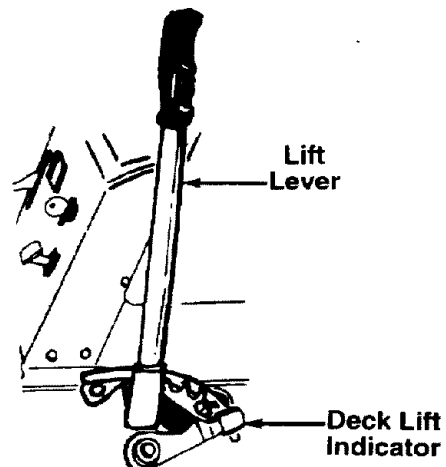

FIGURE 11.
**NOTE:** The lift lever **must** be in the disengaged position when starting the engine, when shifting into reverse and if the operator leaves the seat. See figure 11.
The deck lift indicator marks the position being used for the lift lever. Select the lift lever position desired, press the indicator lever outward, move it to the position immediately below the lift lever and release the indicator lever. See figure 11.
2. Place the lift lever in the DISENGAGED position. See figure 11.